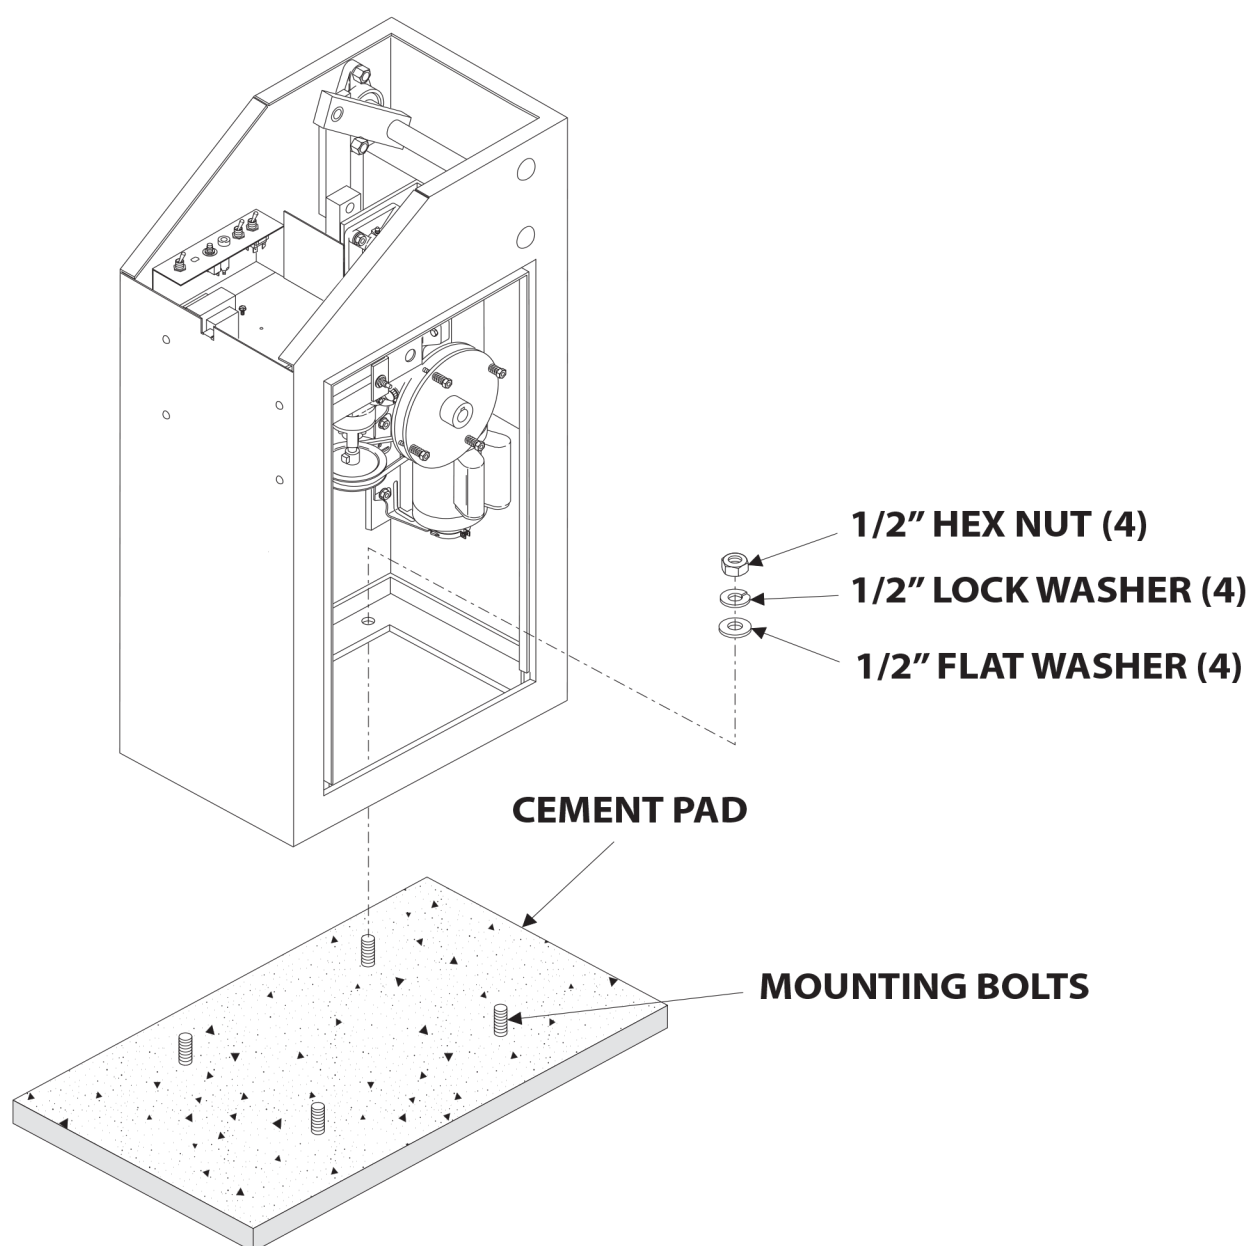

FIGURE 2
3. Mount operator on pad so that mounting bolts locate in operator base frame mounting holes and operator is parallel to fence line (See **Figure 2** below).
4. Secure operator to cement using 1/2" flat washers, lock washers and hex nuts as shown in **Figure 2**.